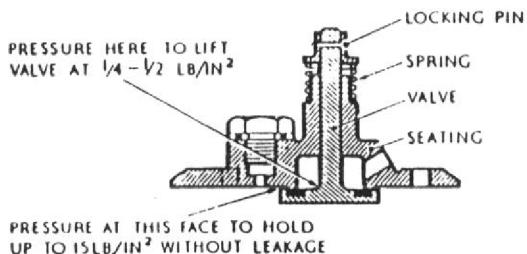
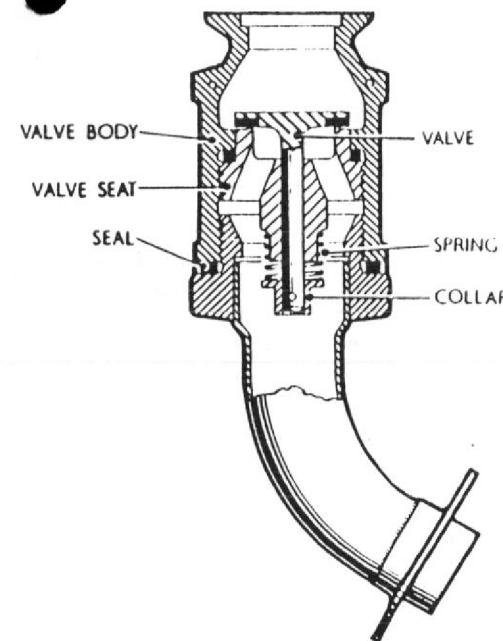

Fig. 4 Suction relief valves (centre tanks)
Fig. 5 Suction relief valves (wings)
**Suction relief valves (Figs. 4 and 5)**
17. These are simple spring-loaded valves designed to open when subjected to a depression below  $\frac{1}{2}$  lb/in2. They serve as inward vents to relieve the tanks in the event of them being subjected to negative pressure, thus preventing possible collapse of the tanks. One (Fig.4) is fitted in each of the fuselage centre tanks and one (Fig.5) in each port and starboard pipes to the drop tank by-pass valves.